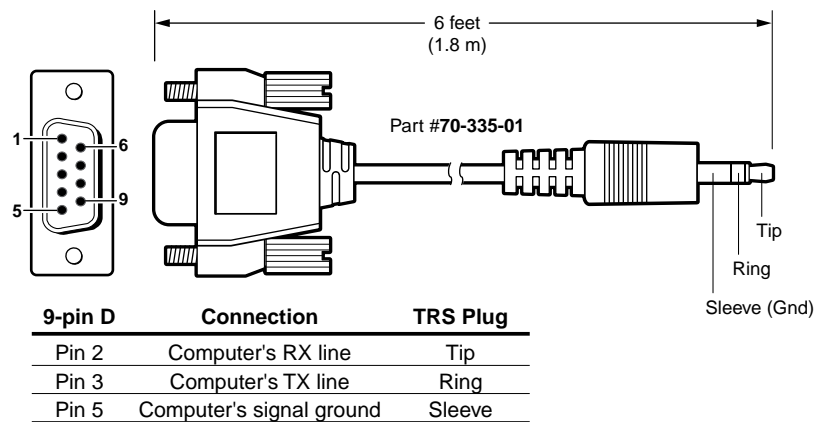

Figure 2-12 — Optional 9-pin TRS RS-232 cable
- 13 Configuration port** — This 2.5 mm mini stereo jack serves the same serial communications function as the rear panel Remote port, but it is easier to access than the rear port after the matrix switcher has been installed and cabled. The optional 9-pin D to 2.5 mm mini jack TRS RS-232 cable, part #70-335-01 (figure 2-12), can be used for this connection.